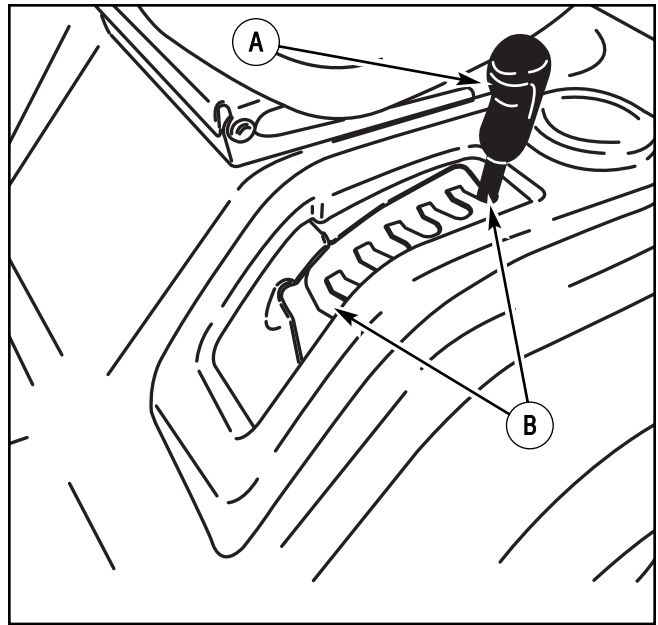

Figure 33: Deck lift lever
2. Mow a short distance on a flat level area to check the level of cut and the height of cut. Look at the **height of cut position number** on the **deck lift lever** (Figure 33).